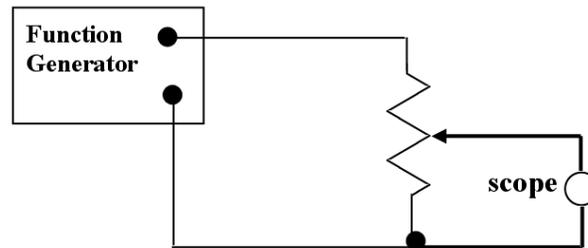

Figure 1: AC level control.
2. *AC level control*: Use a potentiometer to attenuate an AC signal as shown in Fig. 1. This is the essence of an audio volume control. Use two inputs: channel 1 for the input from the function generator and channel two for the attenuated output. Paste a copy of the display with output attenuated by a factor of into your notebook.